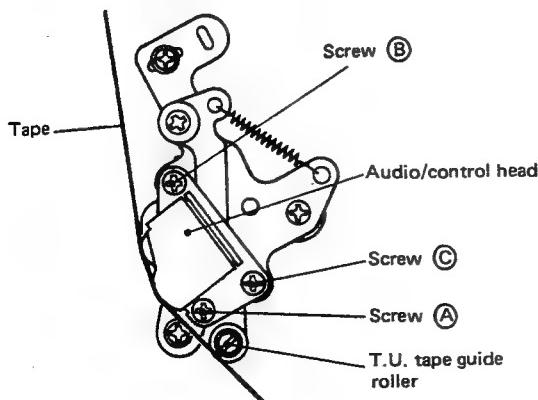

Fig. 2-54 A/C head height adjustment
- Adjust screw (B) (shown in Fig. 2-54 for both maximum output levels and absence of phase difference between CH-1 and CH-2).